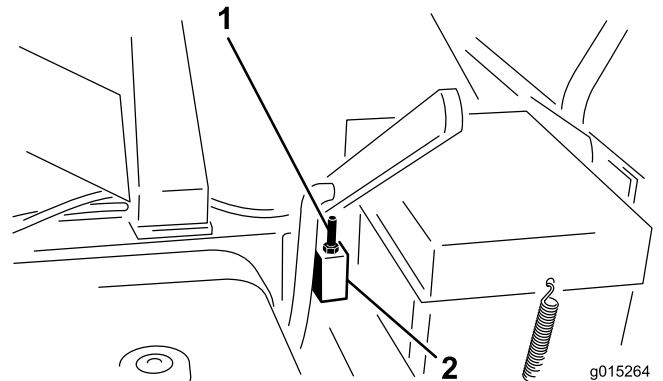

Figure 14
2. Loosen the jam nut on top of the stop and rotate the adjustment bolt up or down until the flap is vertical to the ground (Figure 14).